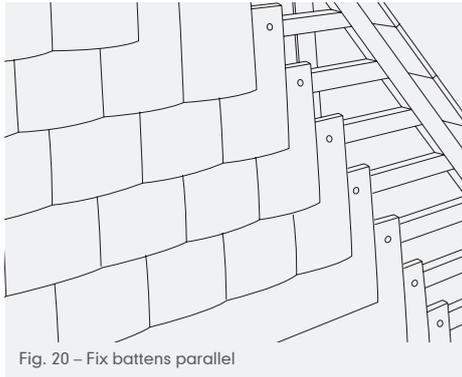

Fig. 20 – Fix battens parallel
- 1 Before installing the main battens, install one or more raking battens (or a 75-100mm x 25mm board) to the underside of the undercloak or overhanging soffit, to provide continuous fixing points for the cut tile-and-a-halves (Fig 20).